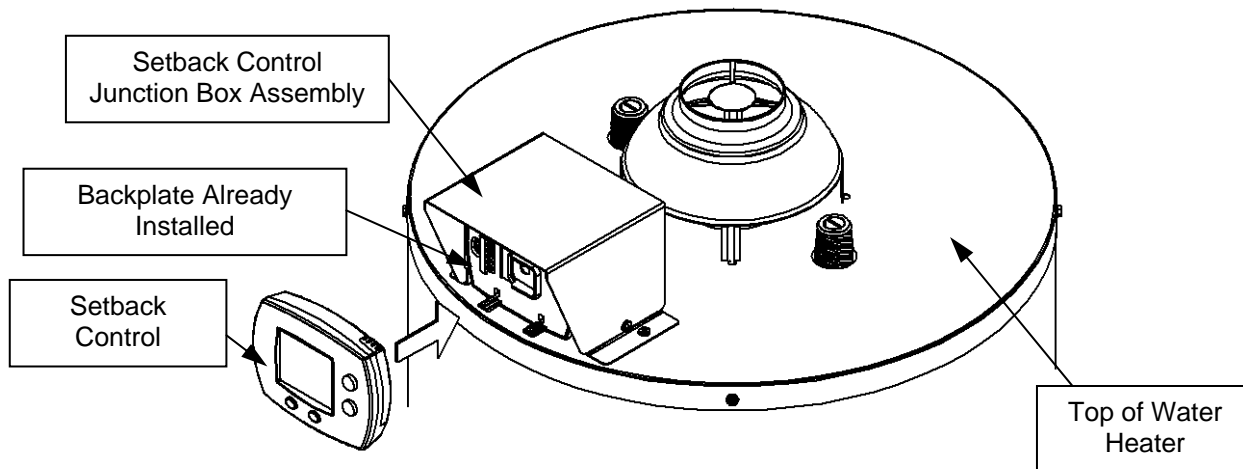

Figure 40
Step 13: Snap the Setback Control into the backplate on the Setback Control Junction Box Assembly. Align the Setback Control to the backplate, and press until it is fully seated. This is shown in Figure 40.